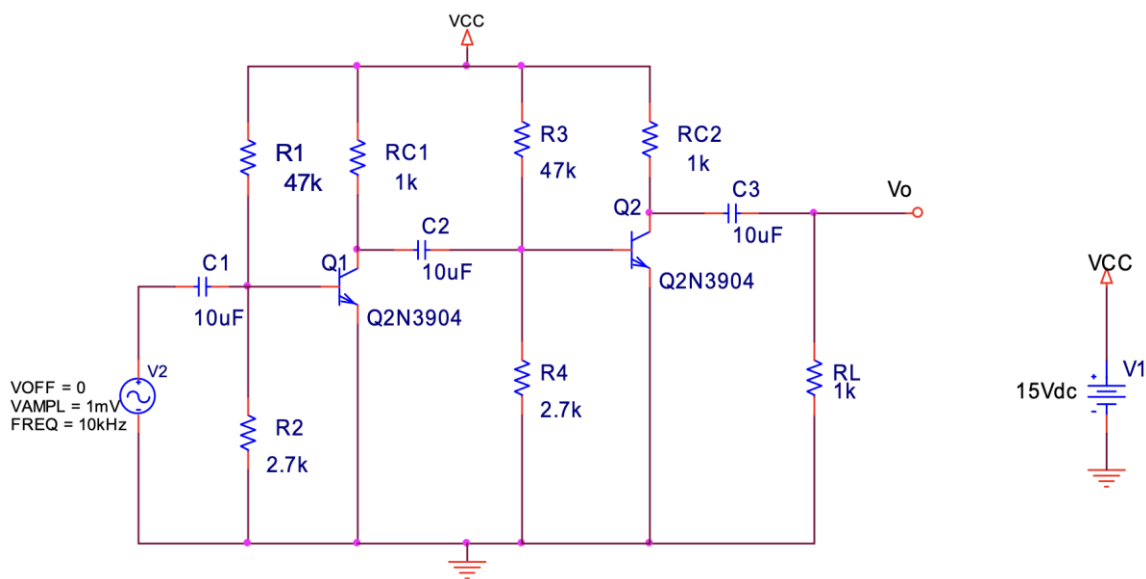

Figure 6. A two-stage CE amplifier circuit
The circuit in Figure 6 is a two-stage common-emitter (CE) amplifier, which has not yet been covered in this course. While you may not be familiar with its theoretical analysis, our focus in this lab will be on other relevant aspects of its operation. The input signal v_2 in the far left is a sinusoidal waveform, which gets amplified and appears as the output (v_o) in the far right of the circuit. It is important to note that the DC biasing voltages and currents do not reach the output terminal v_o . As a result, the load only receives the amplified AC signal applied to the input.
- Circuit construction:** Construct the circuit shown in Figure 6 in a Multisim design window. Use the same elements shown in the given circuit. Apply the input signal as shown in the circuit. **Use a multimeter** to determine the following biasing (DC) voltages and currents and write them in the spaces provided below. Ensure that your readings do not contain any AC component, i.e. the signal.